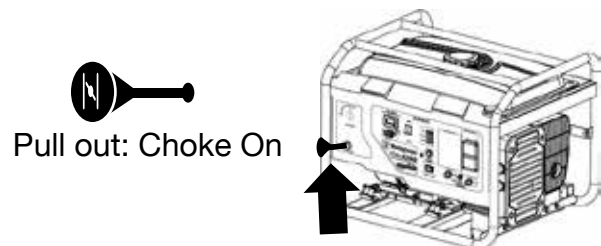

Figure 5: Pull choke lever
7. For cold starting, pull out the choke lever on the control panel (see Figure 5).